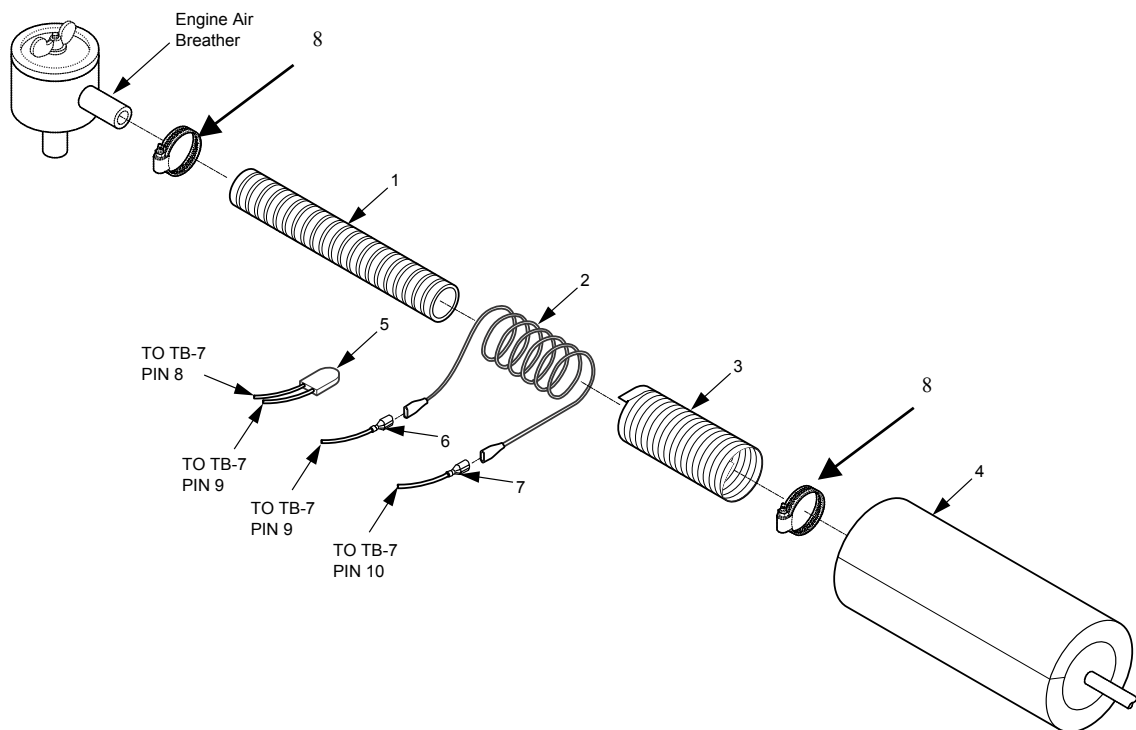

Figure 4-32. Breather Tube Heater Assembly
1. Disconnect engine air breather clamp (8), Figure 4-32, from air breather hose (1).
2. Slide insulation (4) off air breather hose (1).
3. Remove foil tape (3) from air breather hose (1).
4. Disconnect rope heater (2) from TB-7 Pins 9 and 10. Remove rope heater (2) from air breather hose (1).